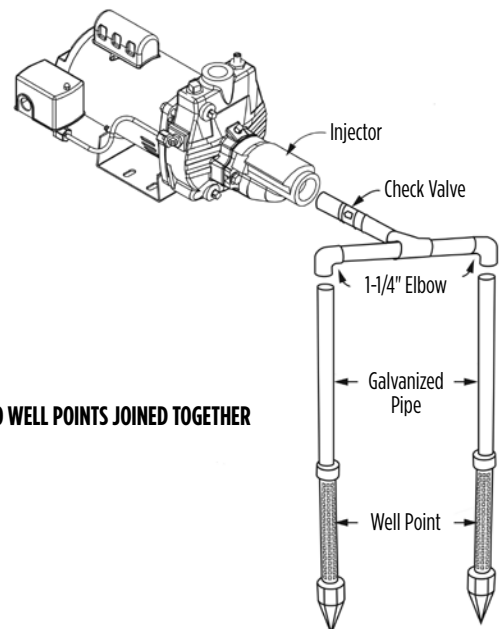

Fig. 8 - TWO WELL POINTS JOINED TOGETHER
4. Drive the well point into the ground according to the instructions that come with the well point. It must be deep enough to bore through the water bearing formation below the water table but should not exceed 25 ft (7.6 m) in depth. An individual well point may not supply the amount of water needed. Sometimes it is necessary to use more than one well point to increase the water supply. The two separate well points can be joined together using additional piping and a cross joint. (See Fig. 8)